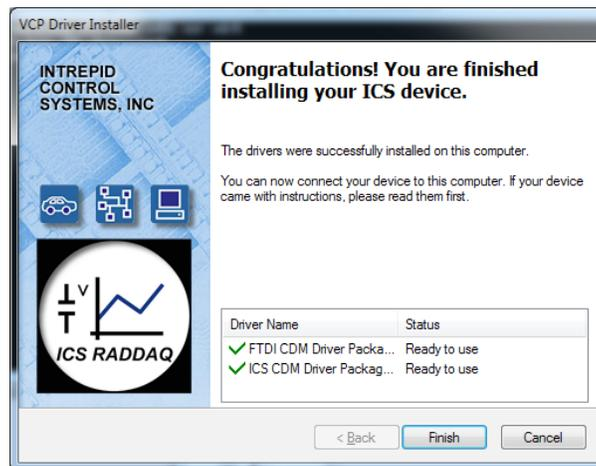

Figure 41: VCP Driver Installation Complete.
9. **Install VCP Drivers:** Click to begin installing the first set of drivers. When completed, a message will appear like the one in Figure 41. Click .